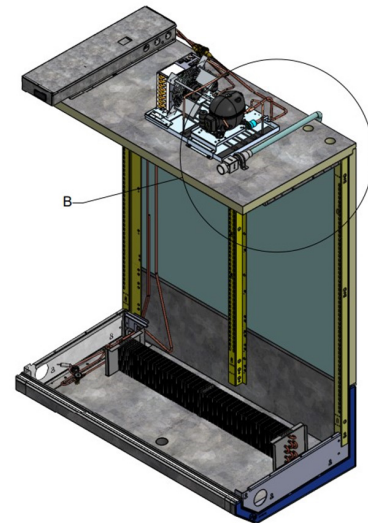

Fig. 29 Blower sub-assembly
3. With the cases 6' away from final position, high charge cases can now have the Leak Mitigation Blower Sub-system (Fig. 29) can be installed, allowing enough space for the drain to be assembled. The Leak mitigation Blower sub-system consists of the Blower sub-assembly and the Drain Adapter (New) sub-assembly. **Note: Blower sub-system is not required on any low charge case models. For those cases, skip to Level Cases on the next page.**